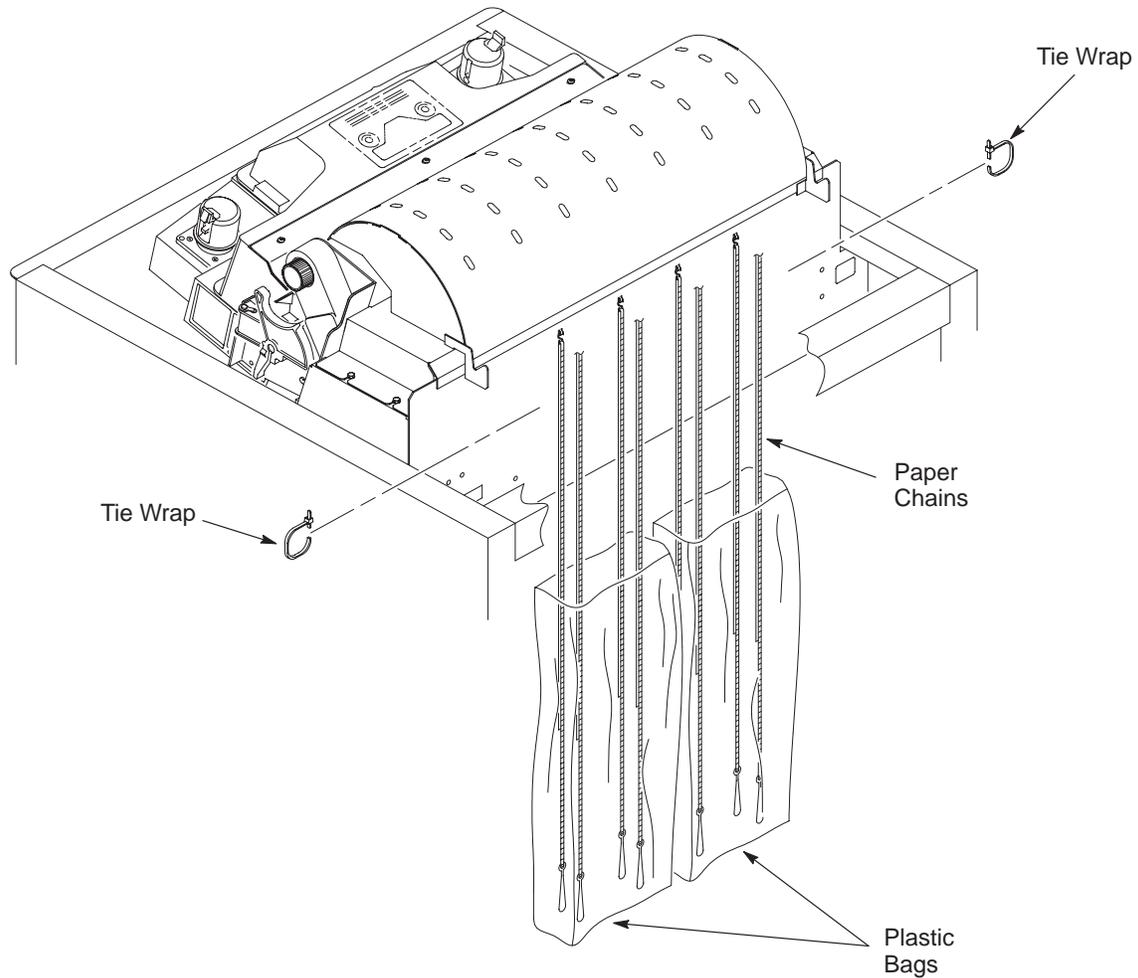

Figure 2–9. Releasing the Paper Chains
2. Cut the tie wraps and release the paper chains from the bags at the top rear of the printer frame. Remove the tie wraps and bags. (See Figure 2–9.)